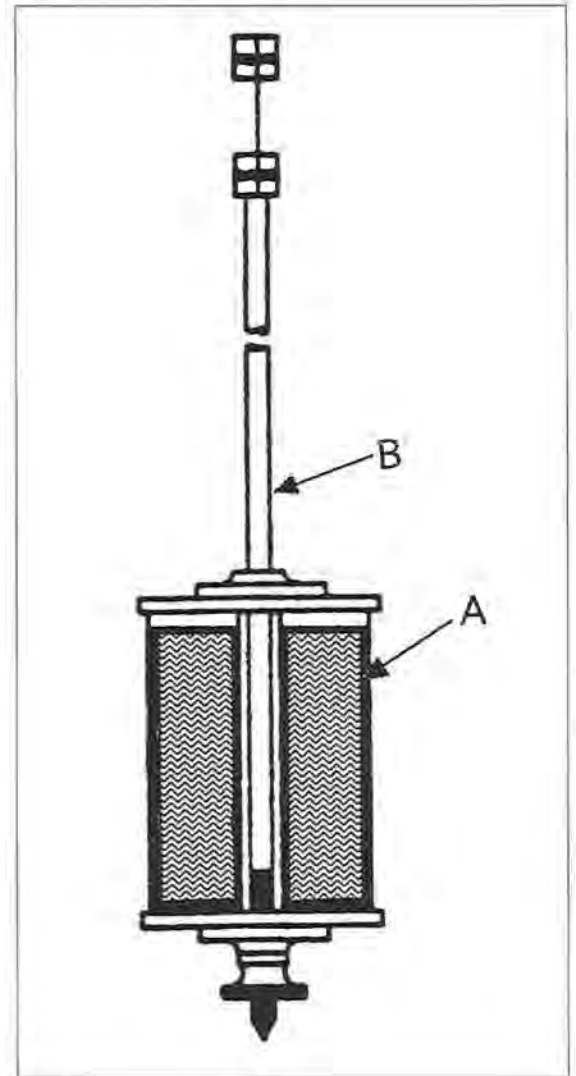

Figure 1. Mercury-Compensated Pendulum
The mercury-compensated pendulum, invented by George Graham in 1730, is the most common type used on regulator clocks. As illustrated in Figure 1, the bob incorporates two glass jars containing pure mercury, supported by a platform above the regulating nut on the pendulum rod. With an increase in temperature, the columns of mercury (A) expand upward to compensate for the expansion of the steel pendulum rod (B) downward. A decrease in temperature will cause the columns of mercury to contract downward and compensate for the contraction of the steel pendulum rod upward, to insure that the center of oscillation of the bob stays at the proper distance from the suspension point. The mercury is held in two glass jars because mercury responds a little slower to temperature changes than steel and by placing the mercury into two jars, a faster response is obtained. It is necessary to compensate for the slight error caused by the coefficient of expansion of the glass containers.